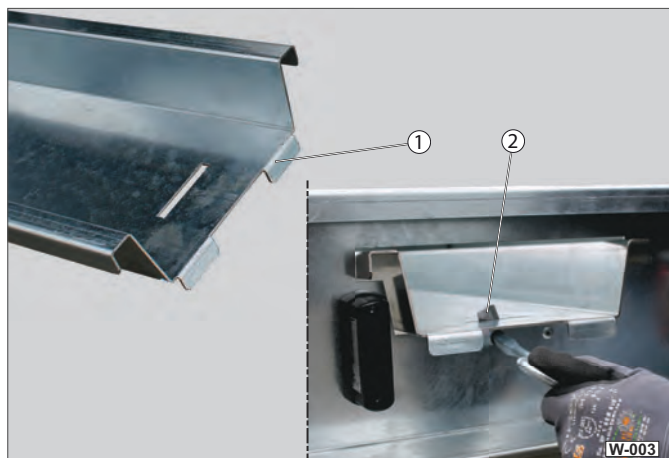

Fig. 3 Checking loading ramp
- ▶ Regularly check (at least every 6 months) the condition of the loading ramp (Fig. 3 /1) for cracks, deformation.
- ▶ Check that the lock is working (Fig. 3 /2).